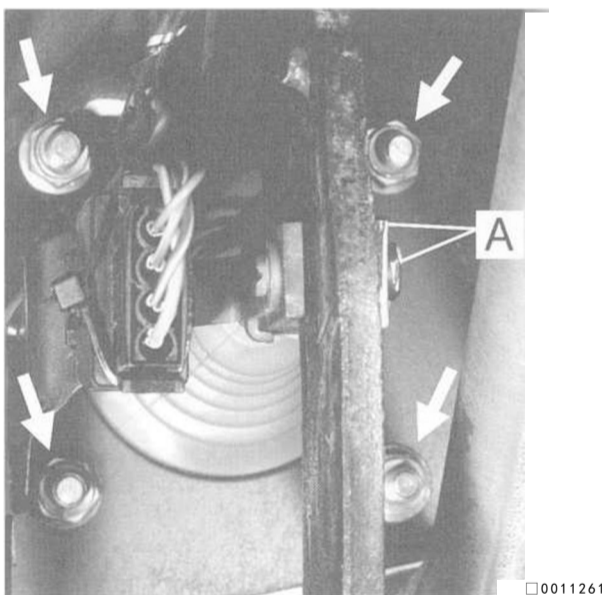

Fig. 13. Brake pedal clevis pin and retaining clip (A), Brake booster mounting nuts shown at **arrows**
7. Remove the clip and clevis pin from the brake booster pushrod and disconnect it from the brake pedal lever. See Fig. 13.